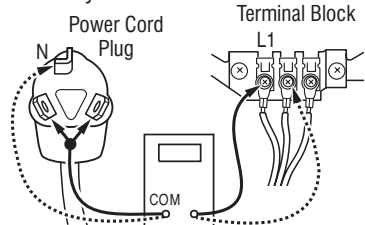

Figure 4a - Plug-to-terminal connections for electric dryer.
3. With an ohmmeter, check for continuity between the neutral (N) terminal of the plug and the center contact on the terminal block. See Figure 4a.
- 4.** In a similar way, check which terminal of the plug is connected to the left-most contact on the terminal block and make a note of it. This will be L1 (black wire) in the wiring diagram. See Figure 4a.